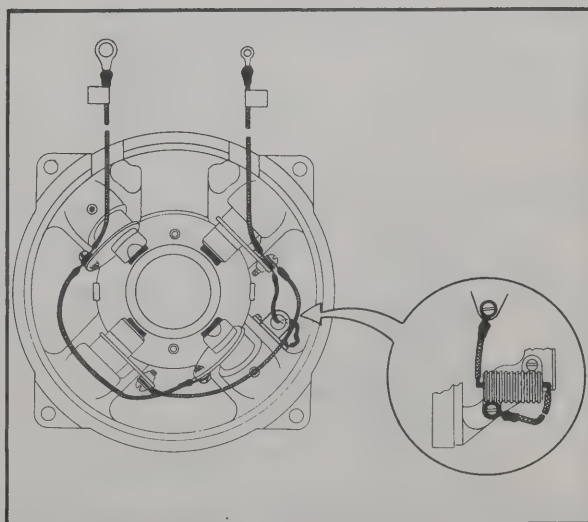
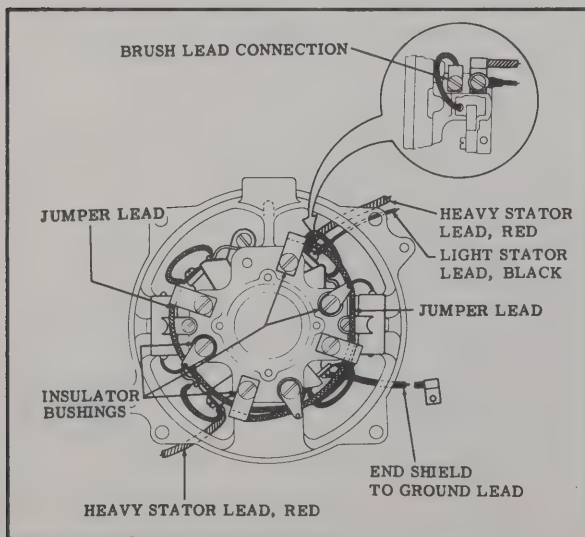

Figure 9-1. AC Shield Assembly
Figure 9-2. DC End Shield Assembly
a. Assemble the resistor assembly (50) to the AC end shield assembly (64). Slide a capacitor (53) into each of two capacitor clamps (56) and secure in the endshield. Refer to figure 9-1, and make up the terminal and lead connections as indicated. Assemble the air duct (fig. 4-6, ref. 57) to the AC end shield assembly (64).
b. Center a brush spring pin (33) in each brush holder (35). Slide two springs (32) on each pin. Set screw (34) is tightened after brush spring tension is adjusted.
c. Assemble four brush holder assemblies to the DC shield (36). Two bushings (31) are used at each mounting hole of the two insulated brush holder assemblies as indicated in figure 9-2. Secure all capacitor assemblies (fig. 4-6, ref. 26) to the DC shield (36) with a capacitor clip (28) and at each location. Refer to figure 9-2 for proper location of capacitor terminals as well as wiring of the end shield.